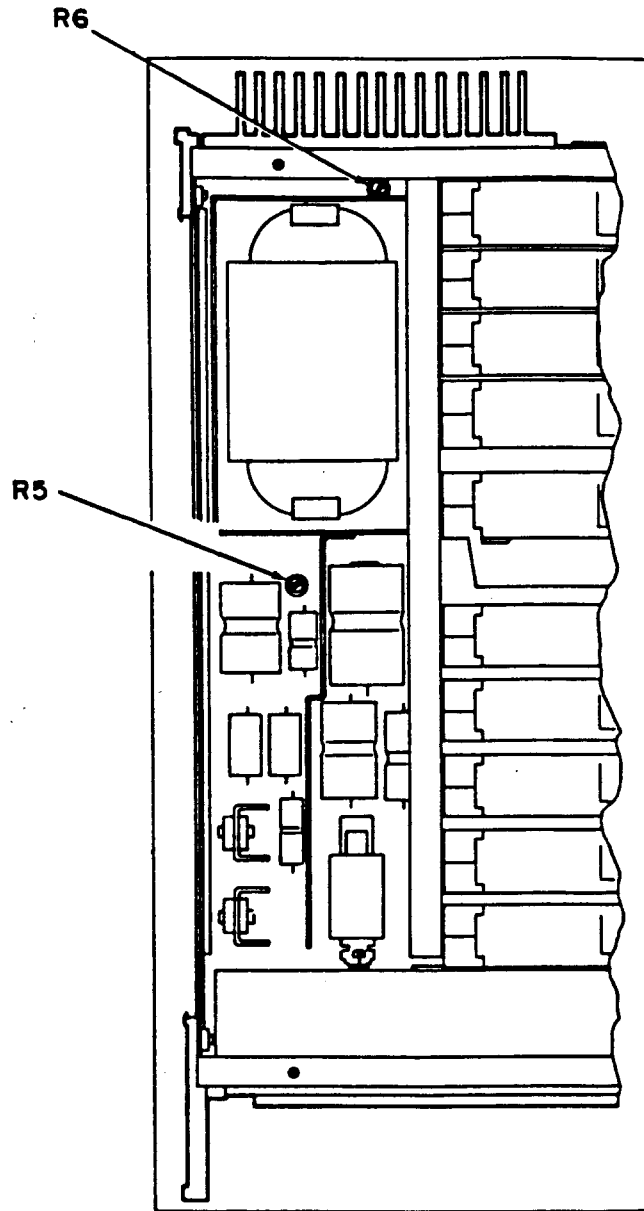

Figure 3. Test instrument - right top view.
- (1) Adjust R6 (fig. 3) to obtain a + 5.05 V dc indication on multimeter (R).
- (2) Adjust R5 (fig. 3) to obtain a + 5.05 V dc indication on multimeter (R).